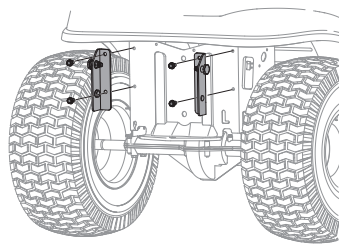

Figure 2
3. Mount the 700 series tractor mounting brackets to your tractor using four self-tapping hex screws included with your kit. See Figure 2.